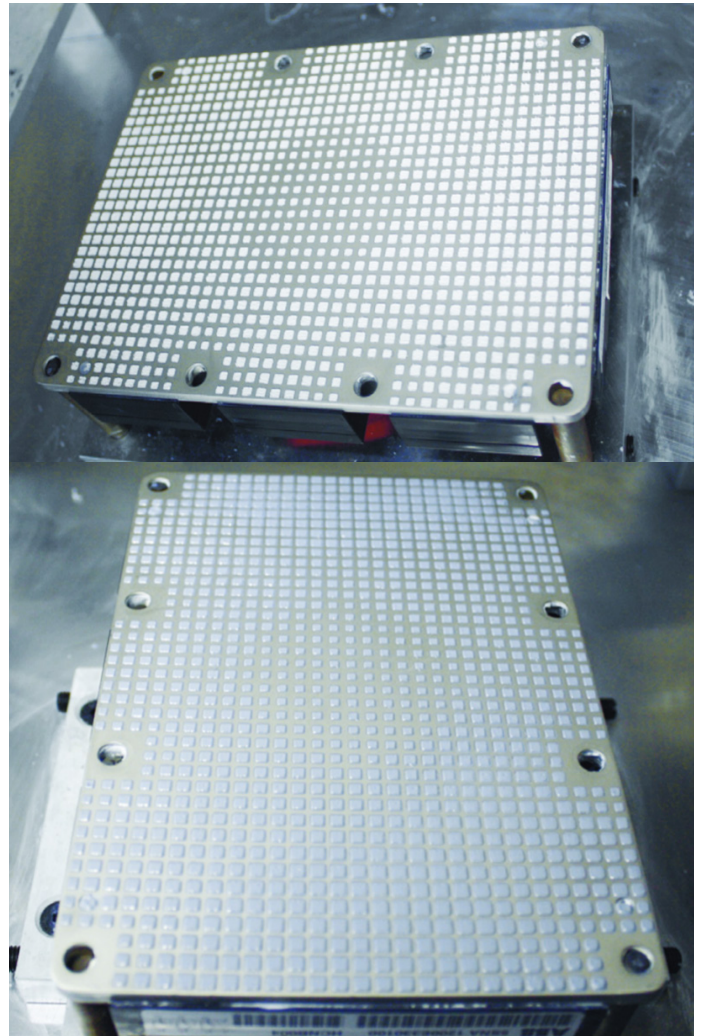

Fig. 8: Example of modules after stencil print
3. Figure 8 shows examples of module base-plates after stencil printing (upper - low viscosity, lower high viscosity paste):